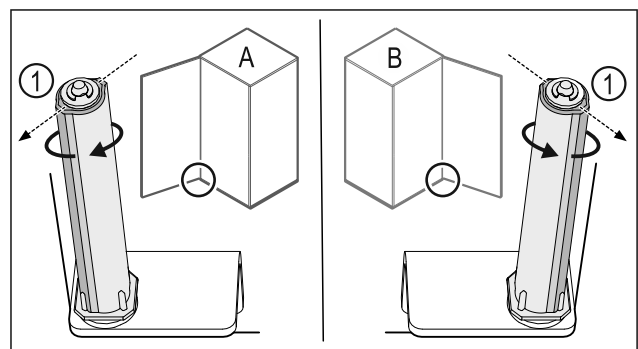

Fig. 19 Left-hinged (A) / Right-hinged (B)
- ▶ Turn the closing system against the resistance until the bar of the closing system Fig. 19 (1) points outwards.